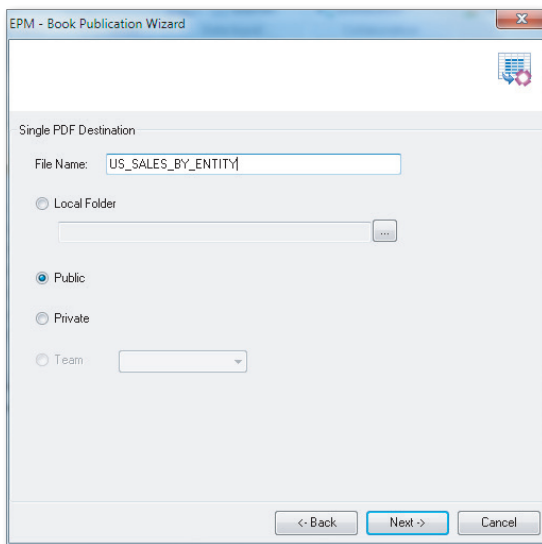

Figure 7.34 Publishing a Book Template—Part C
4. When the option to publish the reports as a single PDF is selected, you specify the name of the file under which the book is saved (Figure 7.34). You have the option to select whether the report should be published in the local folder in the user desktop or in the public or private folder in the SAP BPC server folder. If the option to publish the reports is not specified as a single PDF, the system publishes in multiple PDF format in the public folder under the SAP BPC server folder. The new book viewer that is available in SAP BPC 10.0 can be used only if you publish to multiple PDFs. Publishing to multiple PDFs is secured if at least one of the variable key members is a secured dimension. There will be one item in the public folder for each section defined in the structure of a book.